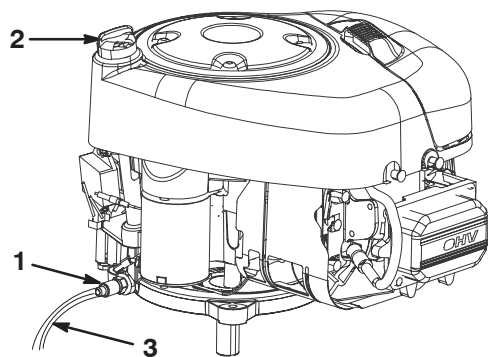

Figure 18
8. Insert the draining tube onto the oil drain valve (Fig. 18).
10. Open the oil drain valve (Fig. 18).